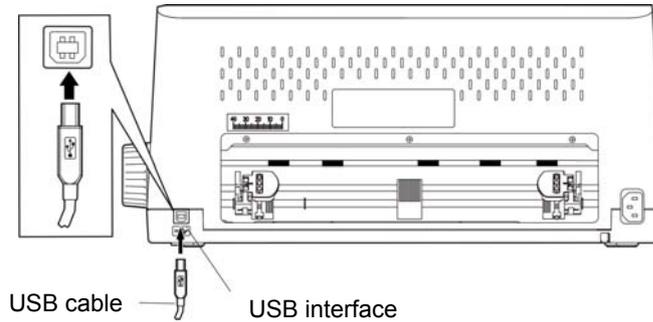

Figure 2-11 Connecting USB cable
The printer can be configured with USB interface, parallel interface, Ethernet interface, Bluetooth or Wi-Fi (Please take the specific interface as standard.). Please connect your computer and the printer with correct interface cable. (As Figure 2-11, 2-12, 2-13, 2-14 shown).
2. Plug the USB cable B end (square shape) into the printer's USB interface connector. (As shown in Figure 2-11)